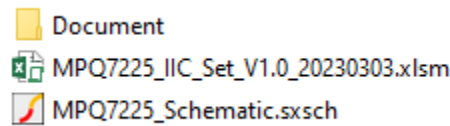

Figure 24: Example of IIC Spreadsheet Application
1. Extract the download file, which usually contains three types of documents (see Figure 24).
- **MPSmart Schematic:** This is the MPSmart target schematic (e.g. MPQ7225_Schematic.sxsch) (see Figure 24).